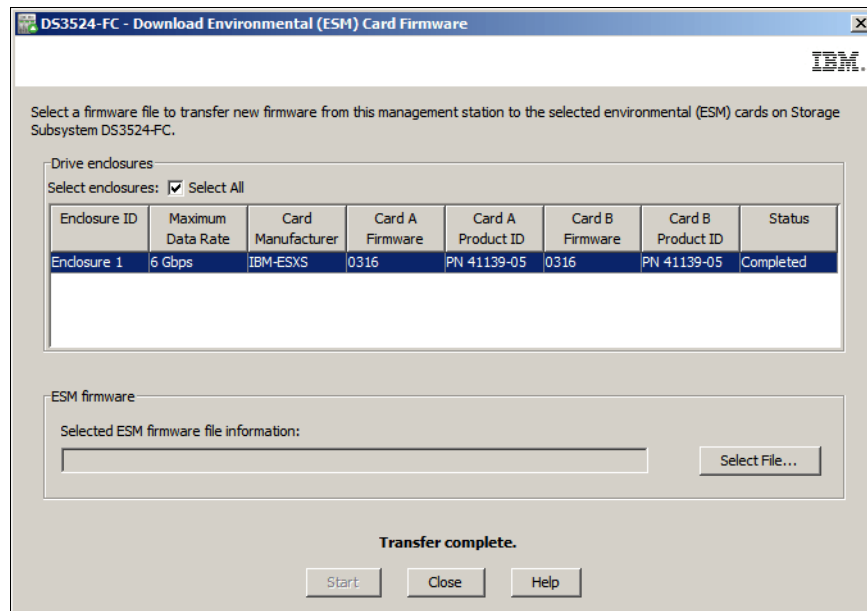

Figure 14-52 ESM firmware transfer completed
- The status changes to Completed when the ESM firmware is downloaded, as shown in Figure 14-52.